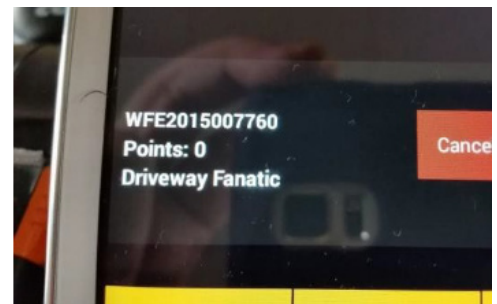

Figure 80
3. This screen will appear when you select Lookup by Phone # (Figure 80).